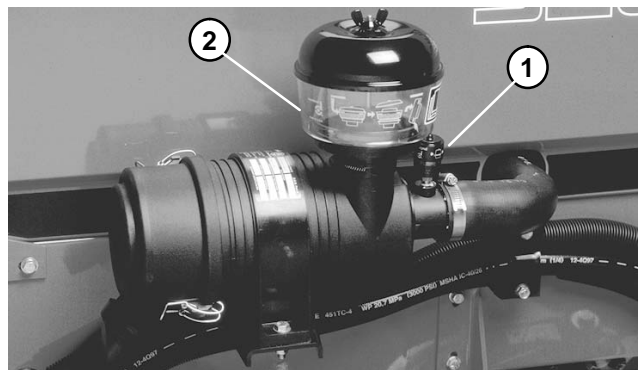

Figure 19
3. Service air cleaner filters whenever air cleaner indicator (Fig. 19) shows red or periodically as recommended in the maintenance schedules in Chapter 2 - Product Records and Manuals (more frequently in extreme dusty or dirty conditions). Do not over service air filter.
Inspect precleaner bowl daily. During extremely dusty or dirty conditions, inspect more frequently. Do not let dust or debris build up above level marks on bowl (Fig. 19).
5. Reinstall cover and secure latches. Reset indicator if showing red (Fig. 19).